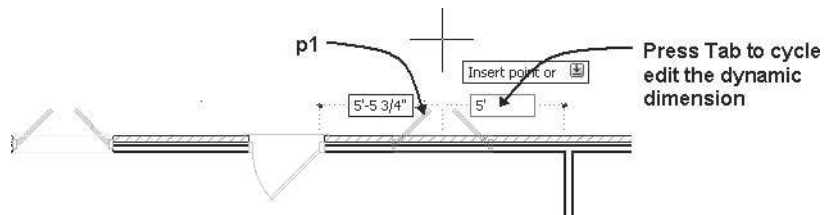

FIGURE 5.66 Editing the dynamic dimension of the window
(Press **TAB** to highlight the dimension on the right as shown in Figure 5.66.)
10. Select the casement window at the right at **p1** as shown in Figure 5.66, and edit the style to **Casement – Double Arched** in the **Properties** palette.